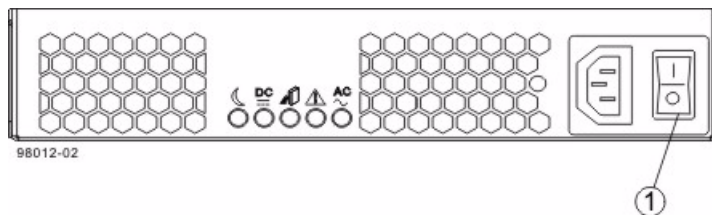

Figure 5.2 AC Power Switch on the Drive Tray
7. Turn off the AC Power switch on the AC power-fan canister that has failed (see *Figure 5.2*).